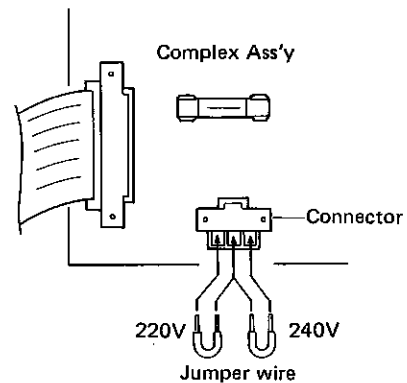

Fig. 1 Line voltage selection
3. Take out the jumper wire from the connector, and re-install the jumper wire in the correct voltage indication (see Fig. 1).